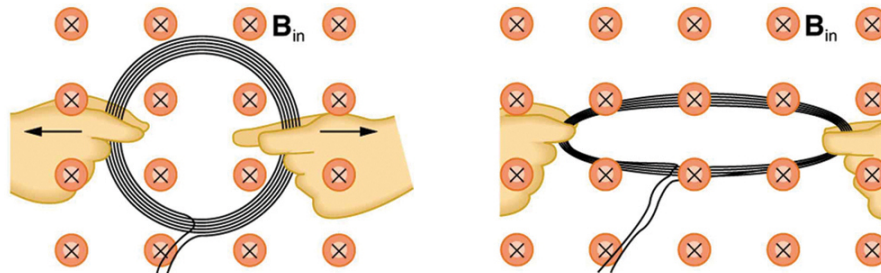

Figure 23.54 A circular coil of wire is stretched in a magnetic field.
- Is an emf induced in the coil in **Figure 23.54** when it is stretched? If so, state why and give the direction of the induced current.